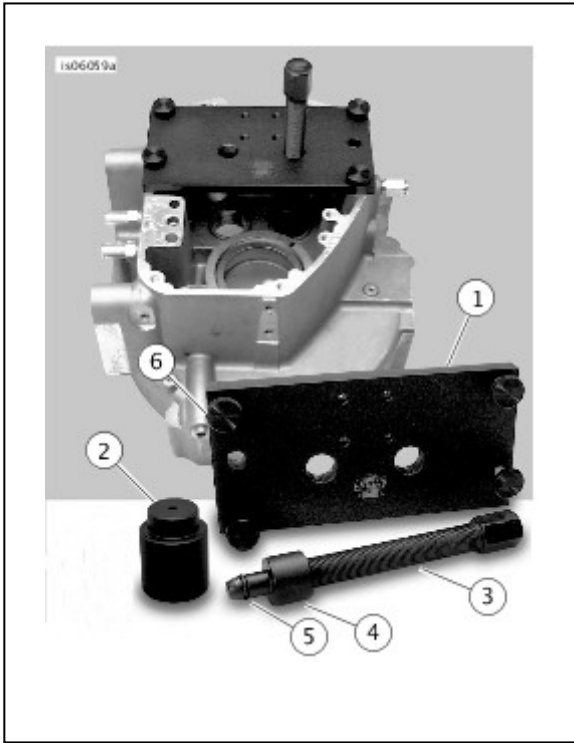

Figure 1. Service Parts: Inner Cam Bearing Installation Driver
See Figure 1 and Table 1.
1. See Figure 1 and Table 1. Apply lubricant to the threads of screw (3) and thread into the cam bearing installer plate (1).
2. Thread the cam bearing driver tool (4) onto the screw (3).
3. Push the cam bearing installer (2) on the end of the cam bearing driver tool (4). Determine proper direction for installing early or late model bearing.
4. Place the new cam bearing with the numbers and letters facing the shoulder side of the cam bearing driver tool (4). Apply an assembly lubricant on the outside diameter of the bearing.
5. Align the assembled cam bearing installer plate over the crankcase flange in line with the bearing bores. Lubricate the four installer plate screws (6) and install the assembly to the crankcase flange.
6. Use a torque wrench set at 25 ft-lbs to turn in screw (3) carefully until the bearing starts into the bore. Tighten the screw until the torque wrench reaches the 25 ft-lbs. This will correctly locate the bearing below the case surface. Measure the distance from the top of the plate to the top of the bearing race. When you subtract the thickness of the installer plate (0.370 in.) the measurement should be greater than or equal to 3.10 in. Repeat the procedure for the next bearing.